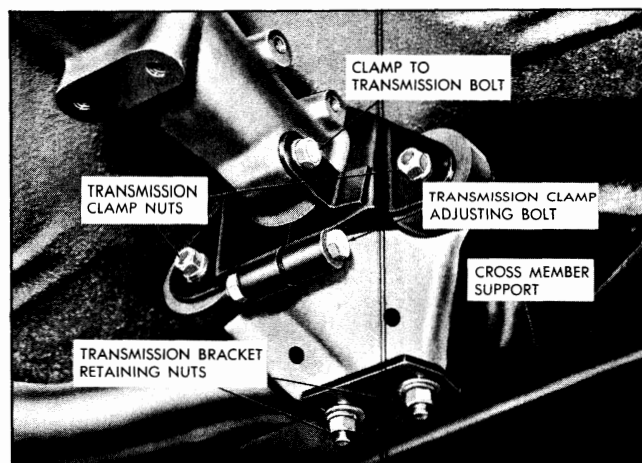

Fig. 7-15 Transmission Rear Extension Support
5. Remove two transmission brackets to cross member retaining nuts (Fig. 7-15).